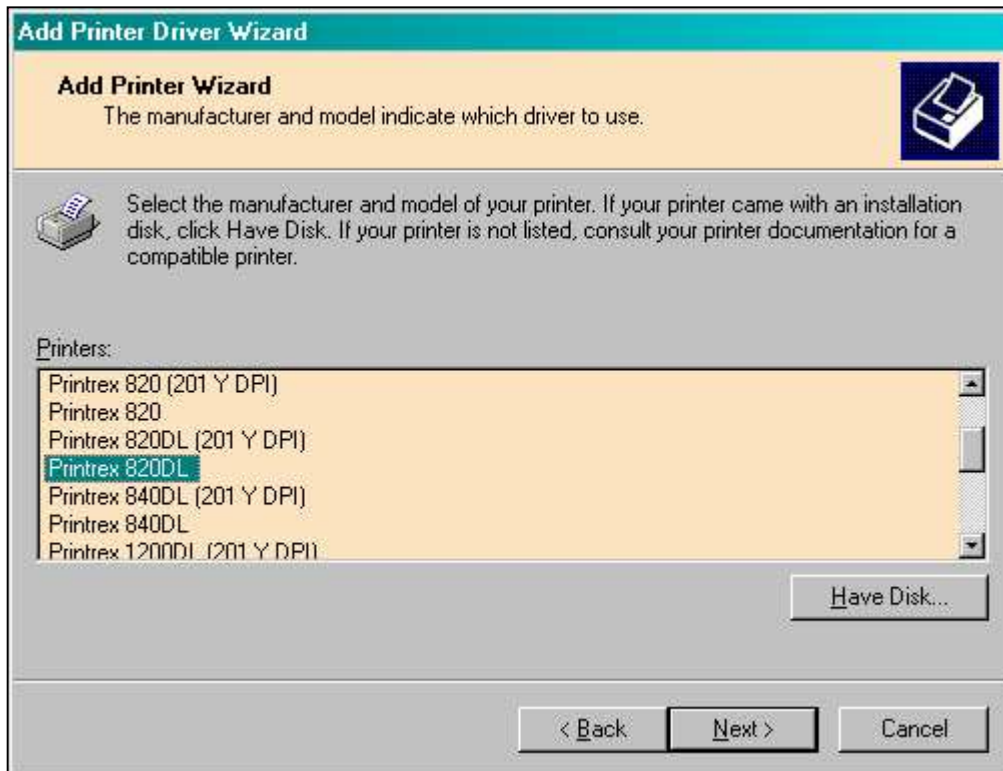

Figure 21
5. The list of available drivers is then displayed, as in Figure 21. Be sure to select the **same model driver** that is currently installed.